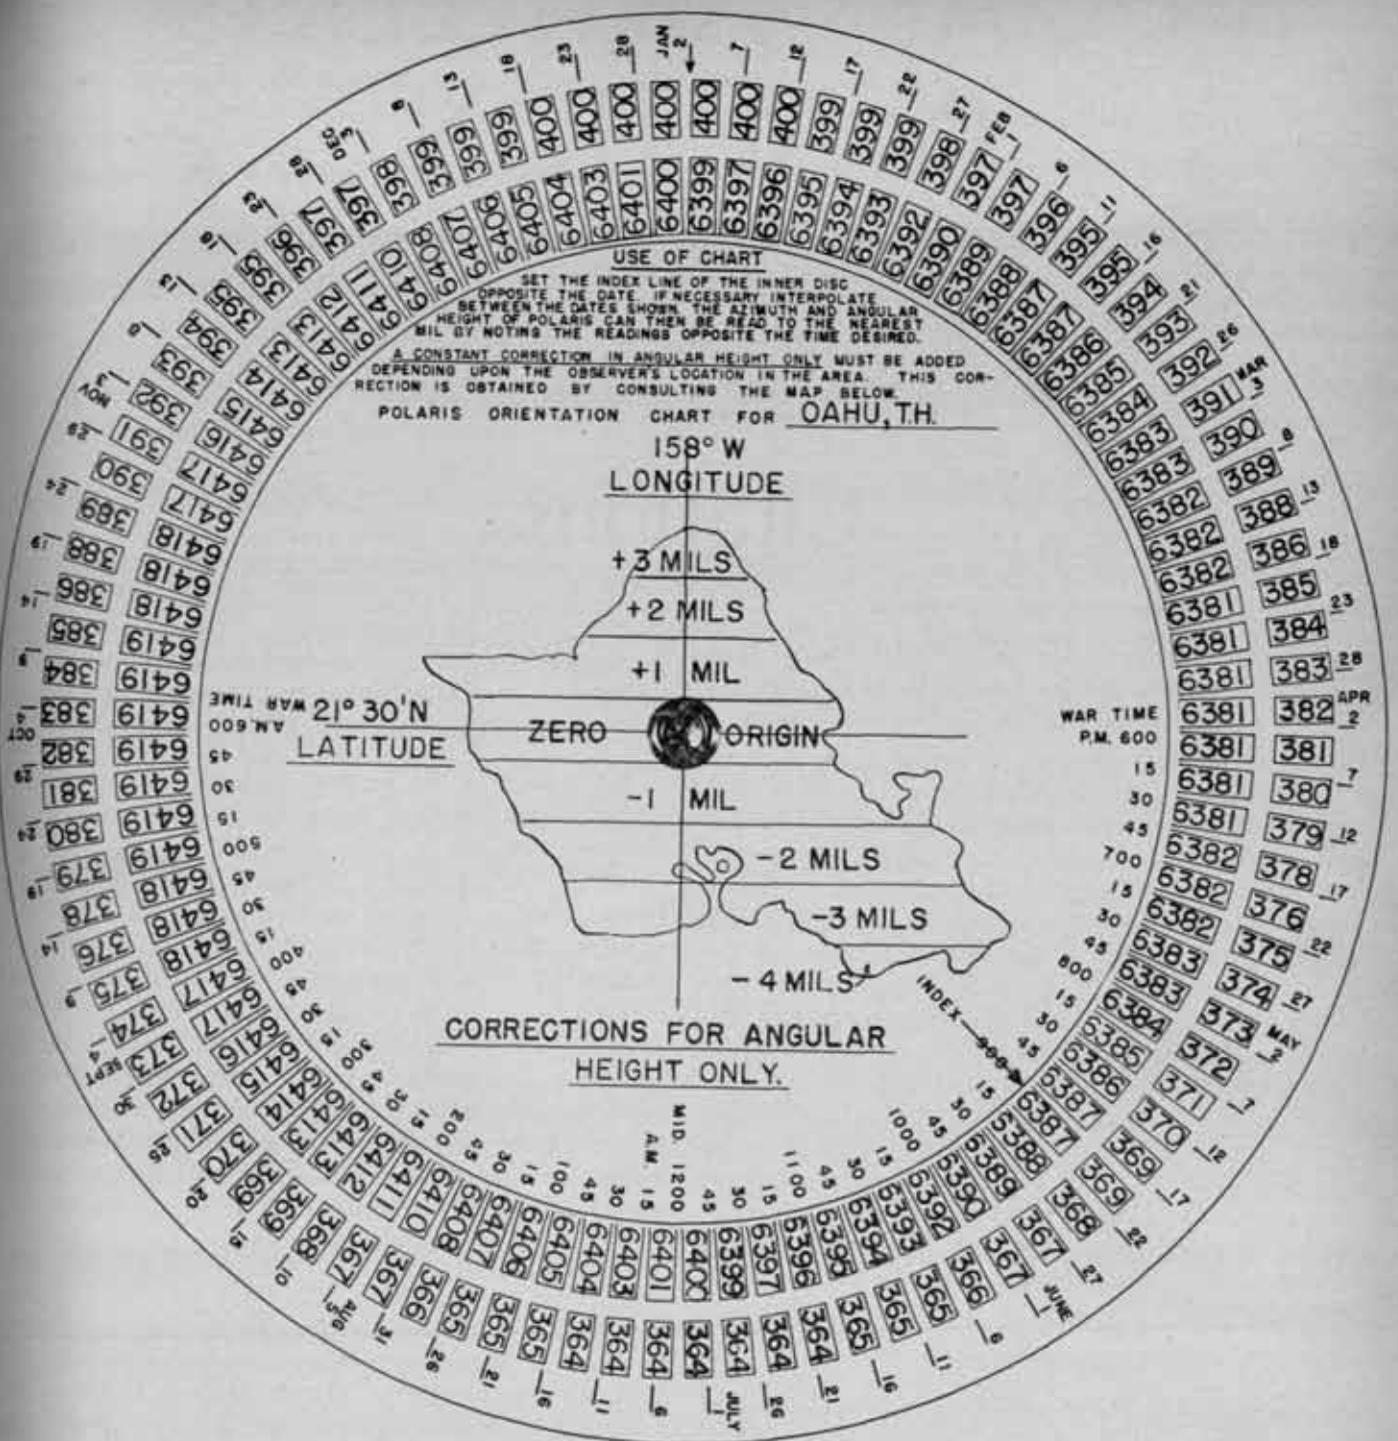

Figure 4
2. From Table I for a latitude North  $21^\circ 30'$ , the ninety-six values of the azimuth of Polaris for a complete cycle are 6408, 6407, 6406, 6405, etc. These are recorded on the disc shown in figure 4.
point a half mil above and below the origin. Mark these strips in increments of one mil as shown in figure 4.